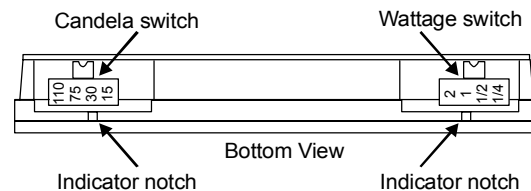

Figure 4: Field configurable switches
4. Slide the wattage switch to the desired wattage tap (2 W, 1 W, 1/2 W, or 1/4 W) by aligning it with the indicator notch below the switch. See Figure 4.
5. Slide the candela switch to the desired candela output (15, 30, 75, or 110 cd) by aligning it with the indicator notch below the switch. See Figure 4.